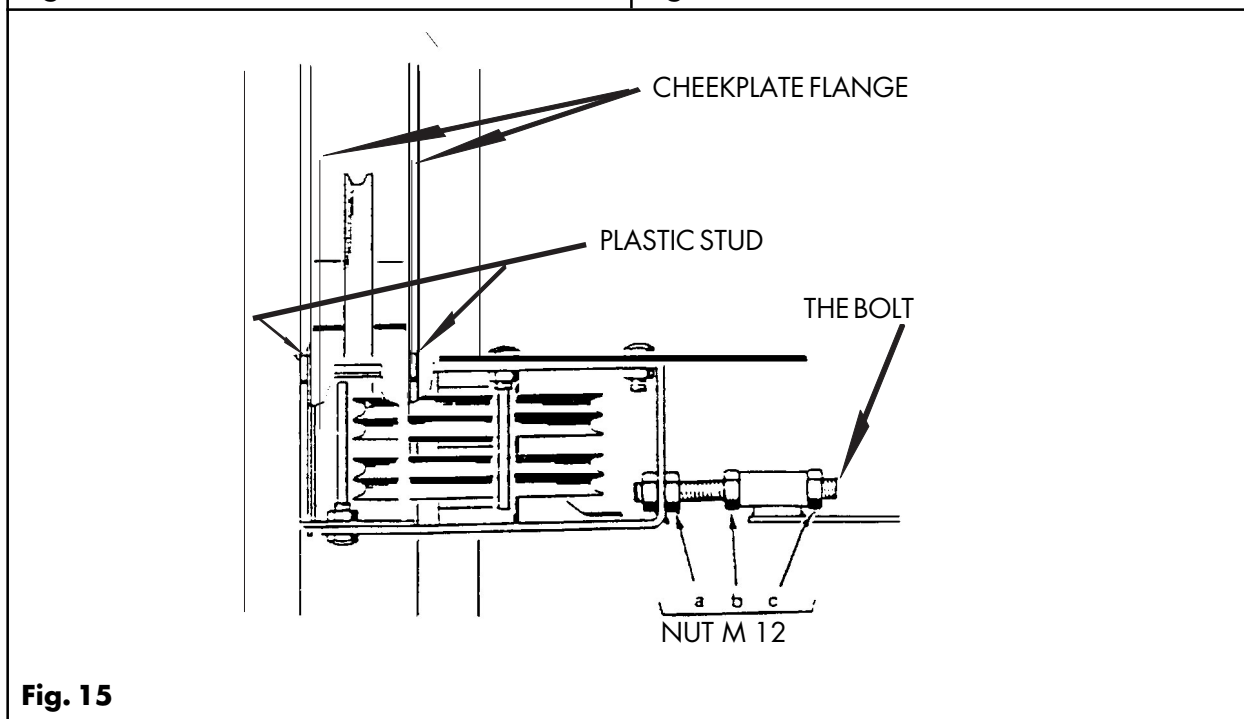

Fig. 15
- Insert the threaded rods into the tubes located in the track (Fig. 15).